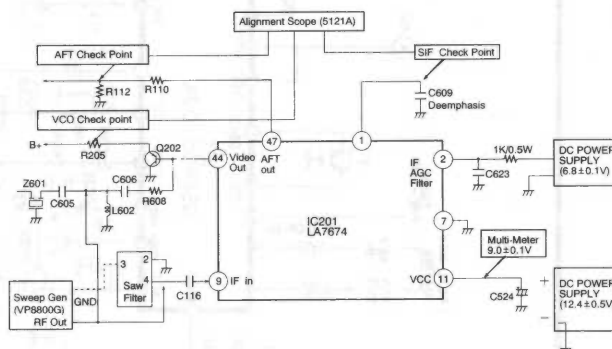

Figure 2
- 1) Connect the output terminal of the sweep-marker generator to the JP terminal of C116.(Refer to figure 2)